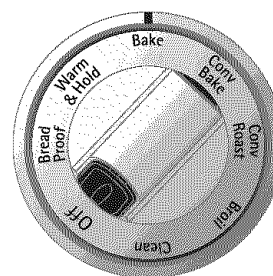

Figure 1
2. Turn the selector control knob to Bake (Figure 1).